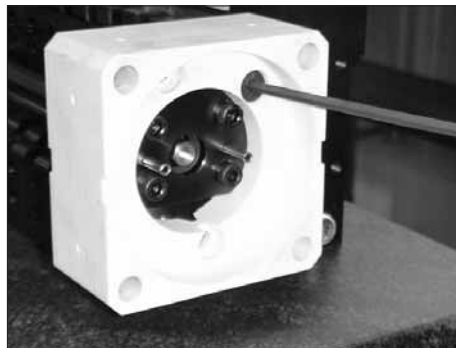

Figure 7-22 Removing the drive adapter
6. See Figure 7-22. Using an M4 hex wrench, remove the drive adapter (three shoulder bolts).